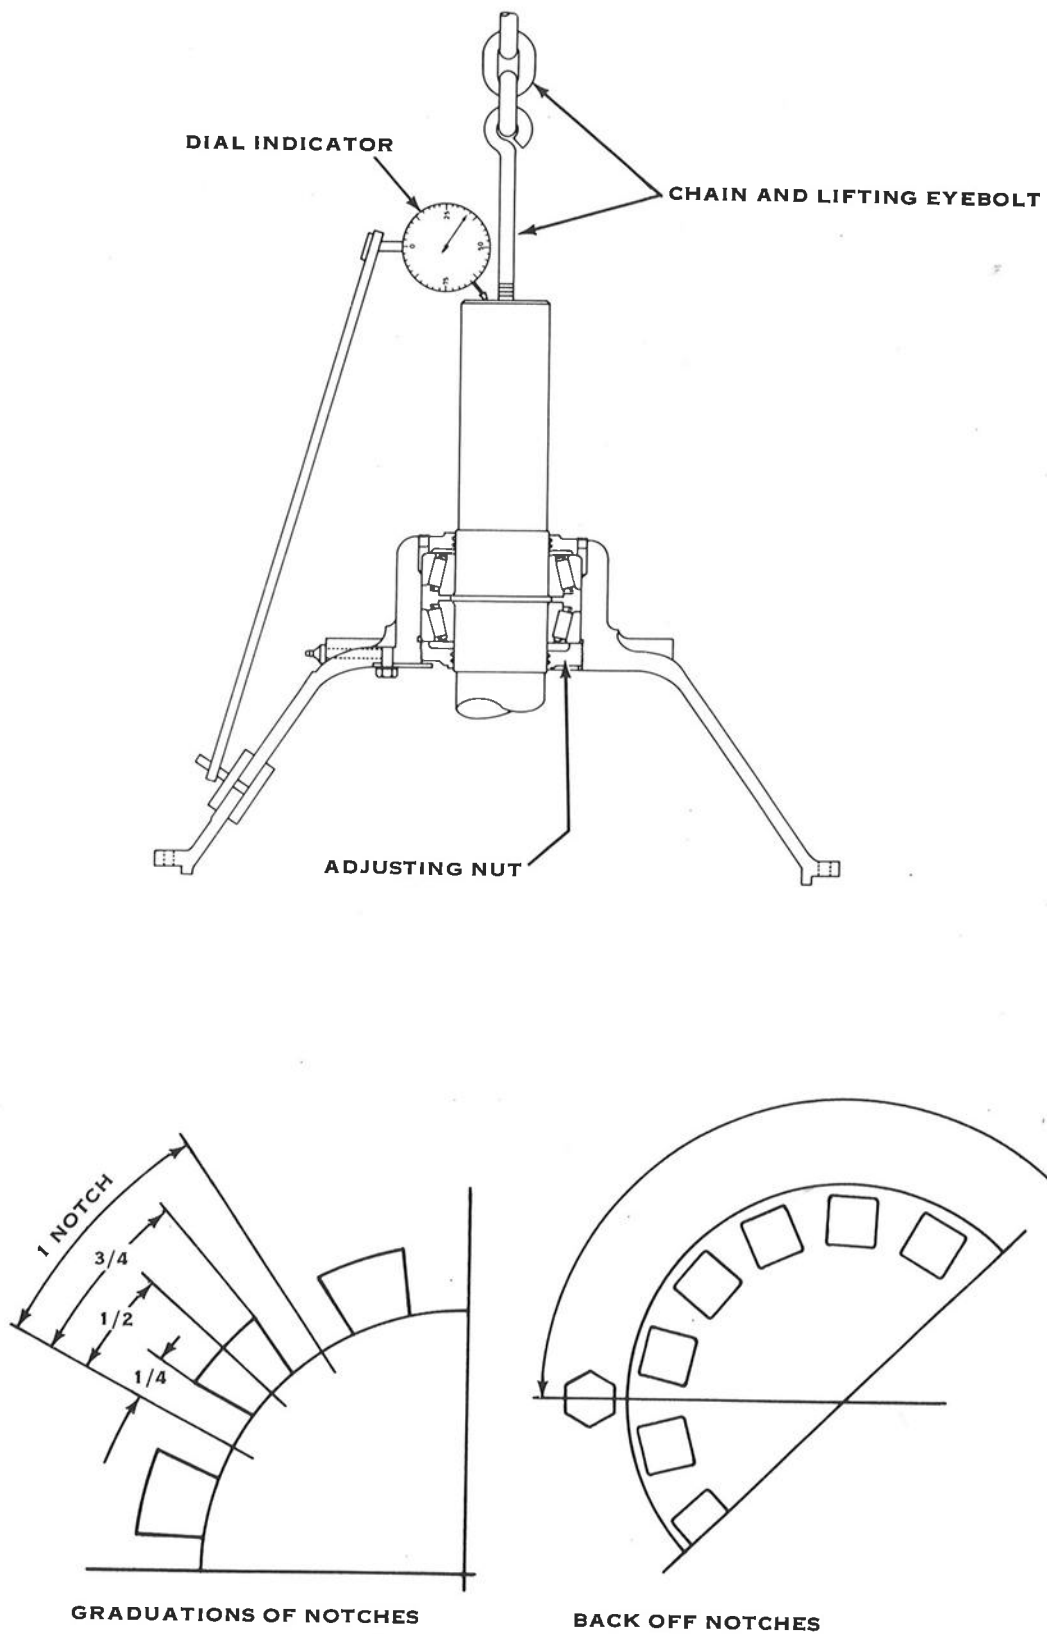
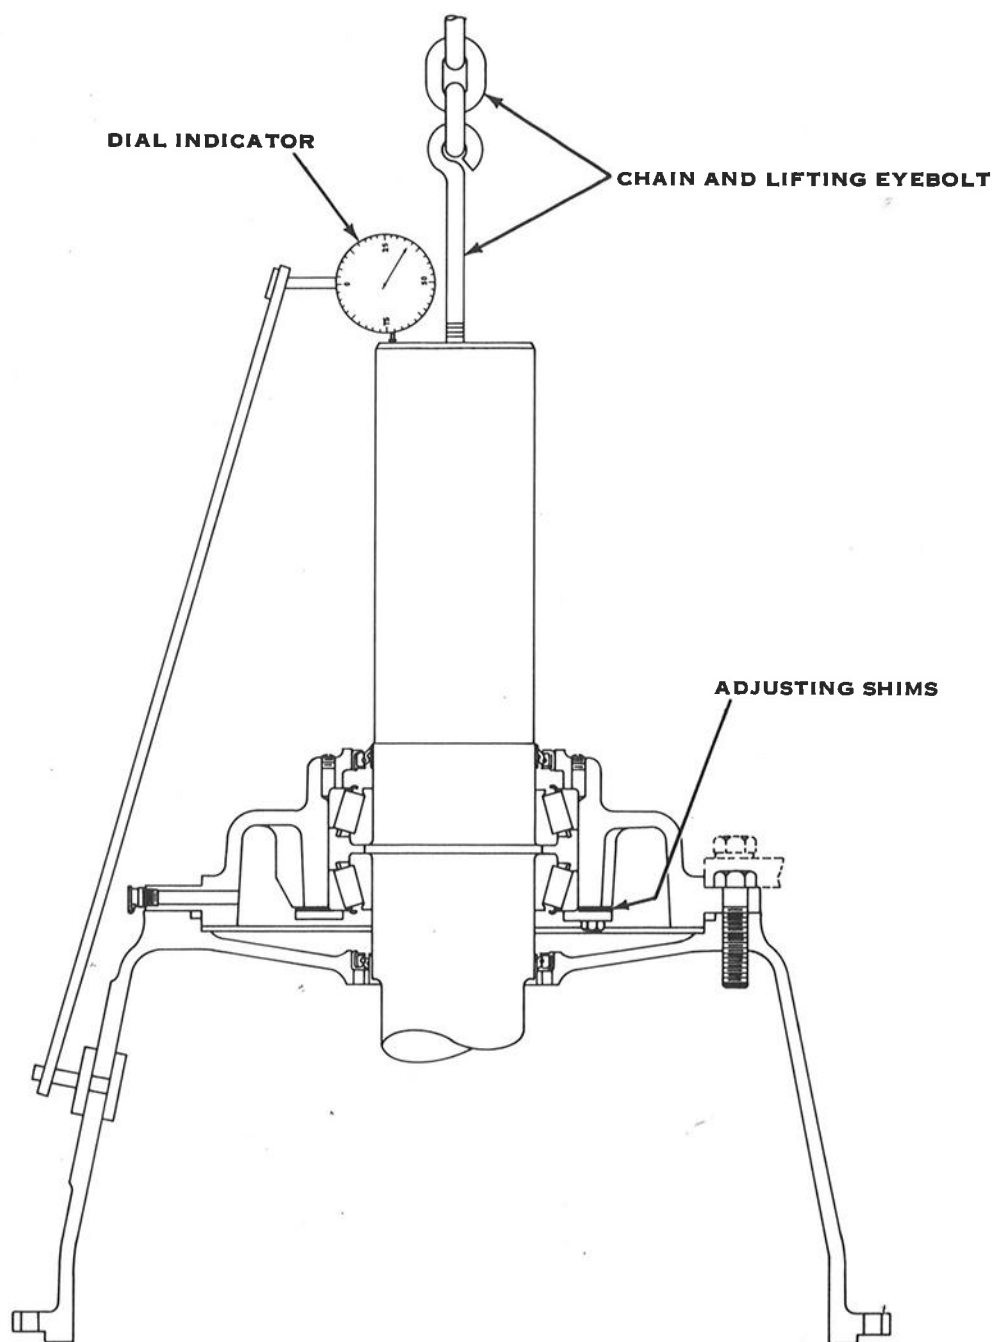

Figure 1.
Figure 2.
Twin Disc PTO design will have one of two means provided for adjustment of the tapered roller bearings; either a bearing retainer nut (figure 1), or a bearing retainer plate and shim pack (figure 2). See pages 13 and 14.
2. Back off the retainer nut (figure 1) the number of notches shown on page 5. Measure the shim pack space on (figure 2) for selecting shims. Select shims equal to space plus additional shims for endplay specified in table.